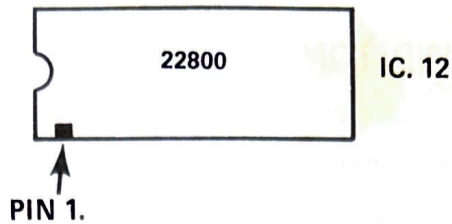

Fig. 5 PROM FOR ADD-A-BALL CONVERSION
3. Insert the new IC12 (P.N. 22800) into the socket on the main logic board. see figures 5 and 6 for orientation.